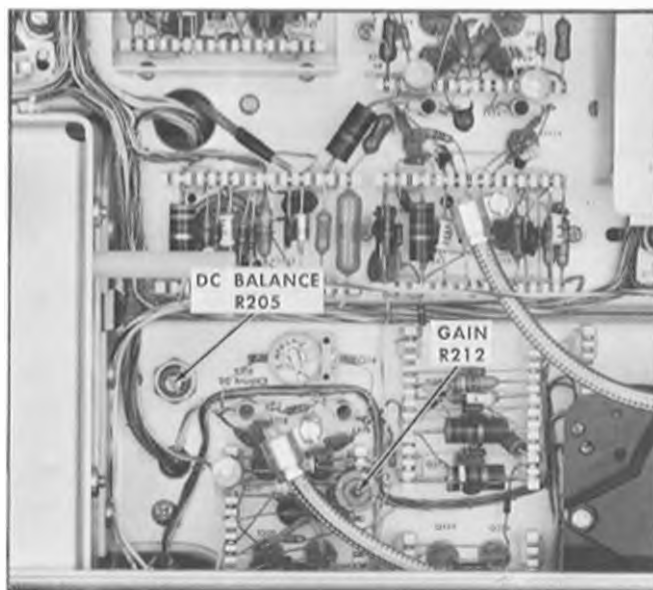

Fig. 6-21. Vertical amplifier DC balance and gain adjustments (right side view).
- b. Adjust DC Balance control R205 (see Fig. 6-21) to center the trace on the Lower Beam graticule center horizontal line.
- o. Adjust GAIN R212 (see Fig. 6-21) for a display amplitude of exactly 4 cm.